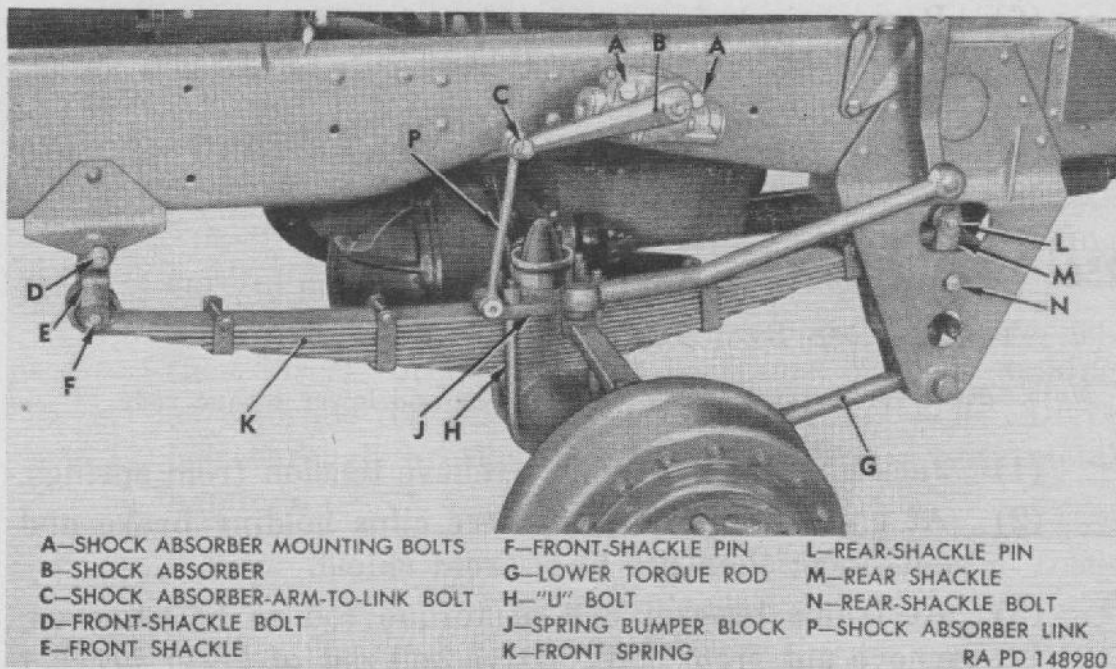

Figure 154. Left front spring installed.
a. FRONT SPRINGS AND SHACKLES (fig. 154). Semi-elliptic-type front springs carry only vertical and lateral loads and are secured to frame brackets through shackles at both ends. Shackles are secured in frame brackets by bolts and self-locking nuts. Each spring eye is secured in shackle with a straight pin which is held in place with a clamp bolt at one side of shackle. Shackle bolts and pins are drilled to direct lubricant to spring eye and shackle bushings. Springs are mounted on axle housing and held in place with "U" bolts and spring bumper blocks.
c. **SHOCK ABSORBERS.** Double-acting shock absorber on each side, is mounted to frame side rail (fig. 154). Shock absorber arms are connected to axle with links which attach to spring bumper blocks. Tapered studs, mounted in rubber, attach link ends to shock absorber arms and spring bumper blocks.
a. **FRONT SPRING AND SHACKLE REMOVAL (fig. 154).**
- (1) Place jack under frame and raise enough to remove all tension from springs.
- (2) Front shackle can be removed from spring and frame bracket without removing spring by jacking up frame to relieve spring tension, and then removing shackle bolt and spring pin. Spring should be removed as explained below before attempting to remove rear shackle.
- (3) Disconnect shock absorber link from eye at spring bumper block.
- (4) Remove nuts from spring "U" bolts; then remove spring bumper block and "U" bolts.
- (5) At each end of spring, remove clamp bolt nut and bolt which secures shackle pin at inner side of shackle. Remove lubrication fitting from outer end of each pin.
- (6) From inside, drive pin out of shackle and spring eye at each end. Spring can then be removed from axle housing.
- (7) If necessary to remove shackles, remove shackle bolt nuts at each shackle; then drive shackle bolts out of frame brackets and shackles.
b. FRONT SPRING AND SHACKLE INSTALLATION (fig. 154).
- (1) If shackles have been removed at each shackle, install shackle bolt through frame bracket and shackle. Shank of bolt at outer end is serrated. Drive shackle bolt in from outer end, seating bolt firmly in frame bracket. Install nut on bolt at each shackle and tighten until shackles bind; then loosen nuts until shackle swings free.
- (2) Position spring on spring seat on axle housing with center bolt head engaging locating hole in seat, and with spring eyes in place in shackles.
- (3) At each end of spring, aline holes in shackle with spring eye. Insert shackle pin with flat milled portion of pin registering with clamp bolt hole in shackle. Install clamp bolt through shackle; install nut on bolt; then tighten nut to $9\frac{1}{2}$ -13 pound-feet torque.
- (4) Install "U" bolts and spring bumper block, with shock absorber link eye in bumper block toward the front. Install nuts on "U" bolts and tighten firmly. Final tightening should be made with weight of vehicle on spring.
- (5) Insert shock absorber link stud through eye in spring bumper block. Install and tighten stud nut to 48-64 pound-feet torque.
- (6) Remove jack from under frame. With weight of vehicle on springs, tighten "U" bolt nuts to 170-200 pound-feet torque.
- (7) Install lubrication fittings in shackle bolts and pins, and lubricate shackles (par. 57).
- (1) If shock absorber action is not satisfactory (over flexible), disconnect link at spring bumper block. Move shock absorber arm up and down. Normal action requires resistance in both directions. If arm drops easily part way, stops, and then continues to move down slowly, refill with fluid (par. 59p).
- (2) If leaks are evident around end caps or filler plug, replace gaskets. If unit has been operated with low fluid level, leaks may appear around shaft. Shock absorber should then be replaced.
b. SHOCK ABSORBER REMOVAL (fig. 154).
- (1) Remove nut on link pin at shock absorber arm and drive out pin from arm. If link also must be replaced, remove at spring bumper block.
- (2) Remove two mounting bolts and nuts securing shock absorber to frame.
c. SHOCK ABSORBER INSTALLATION (fig. 154).
- (1) Position shock absorber at frame; then insert two attaching bolts through shock absorber and frame side rail.
- (2) Place a reinforcing spacer between inner side of frame side rail and each bolt nut. Install bolt nuts and tighten to 63-84 pound-feet torque.
- (3) Connect link to shock absorber arm. Tighten link pin nut to 48-64 pound-feet torque.
- (4) Fill absorber with fluid if necessary (par. 59p).
- (5) Connect link to spring bumper block. Tighten link pin nut to 48-64 pound-feet torque.